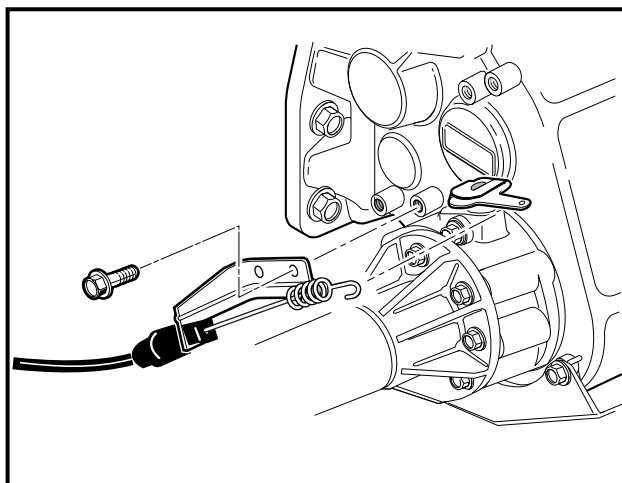

Figure 16-37 Differential Lock Arm and Bracket
21. Remove the two bolts that secure the differential lock cable bracket to the transaxle housing and unhook the cable spring from the differential lock arm (**Figure 16-37, Page 16-15**).